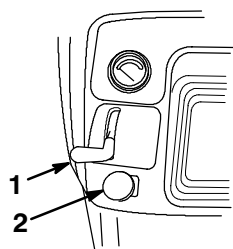

Figure 13
3. Push the PTO (power take off) switch to OFF (Fig. 13).
4. Move the throttle lever to SLOW (Fig. 13).
- Move the throttle lever to SLOW (Fig. 13).